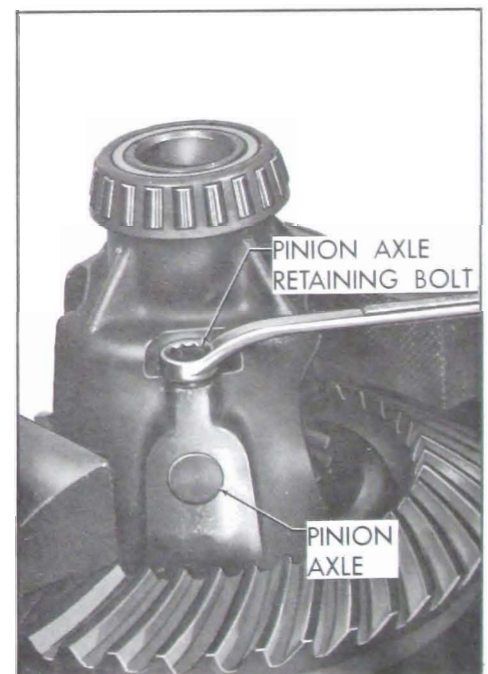

Fig. 6-13—Removing Pinion Axle Retaining Bolt
2. Remove bolt that retains differential pinion axle. See Figure 6-13. Remove differential pinions, side gears and thrust washers from case.